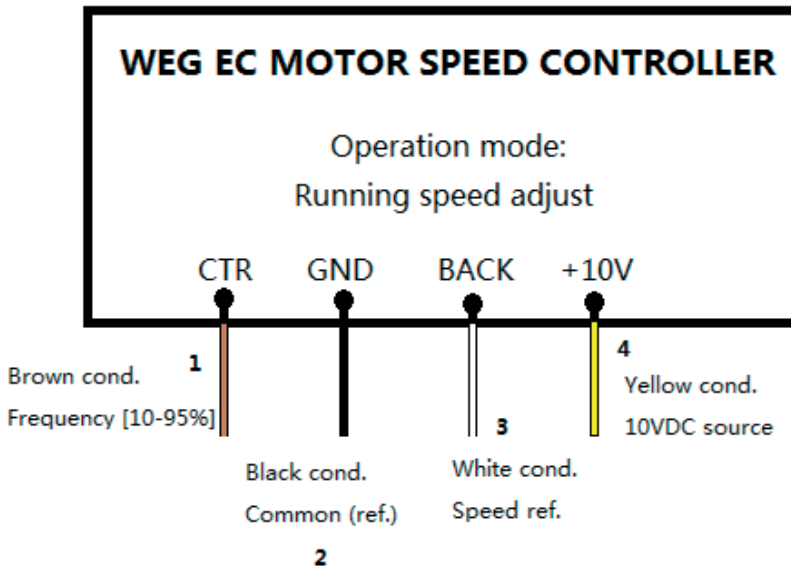

Figure 6.5 - The diagram of controller
- Fed the EC motor following the instructions of the item 5.1;
- Connect the conductors from the control cable to the external speed controller according to Figure 6.5;
- Rotate CTR in clockwise direction (CW) to increase the running speed;
- Rotate MAX in clockwise direction (CW) to increase the maximum speed;